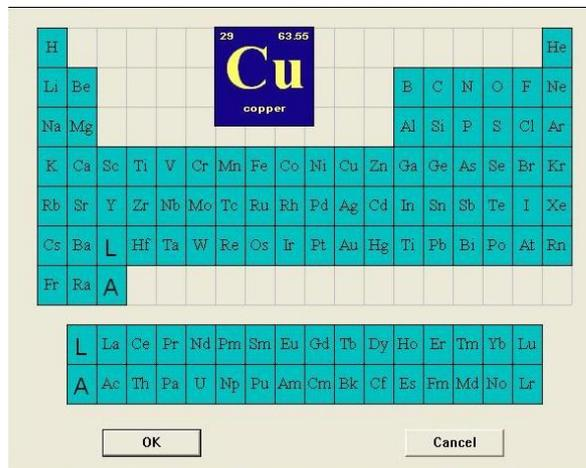

Figure 4-13
2. Select and click on an element with the mouse. The selected element will be shown on a highlighted position, as shown in Figure 4-13.